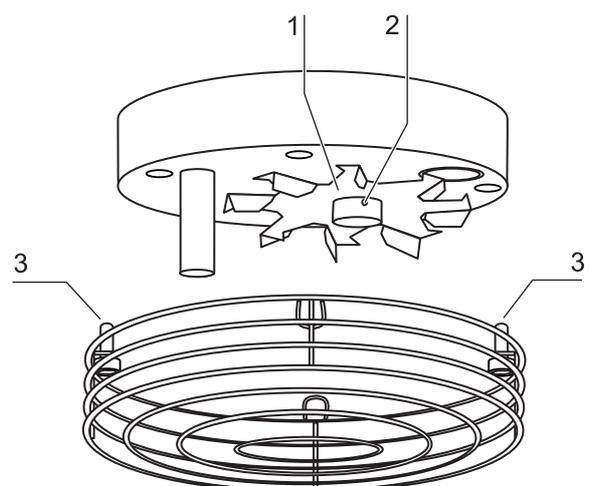

Fig.17: Removing blower wheel and cover
1. **Fig.17:** Remove the two retaining screws [3] of the cover using the supplied Allen wrench (3 mm) and remove the cover.